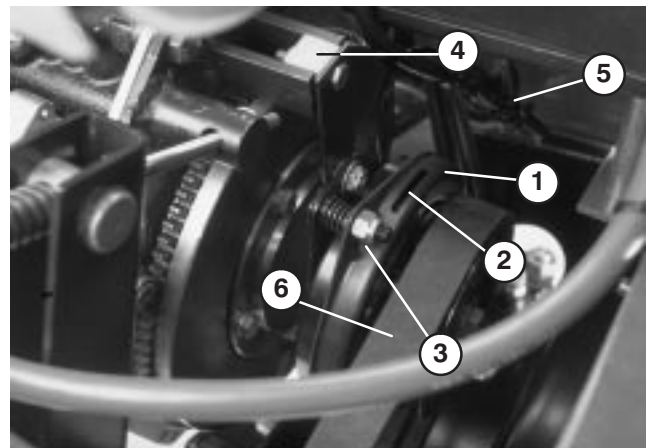

Figure 47
2. Remove bolt, washer and nut securing nylon block and remove nylon block (Fig. 47).
3. Unplug clutch electric connector (Fig. 47).
4. Adjust the air gap so that a .015 inch feeler gauge slides in between the clutch lining and friction plate with light pressure (Fig. 47). The gap can be decreased by turning the adjusting nut clockwise (Fig. 47).